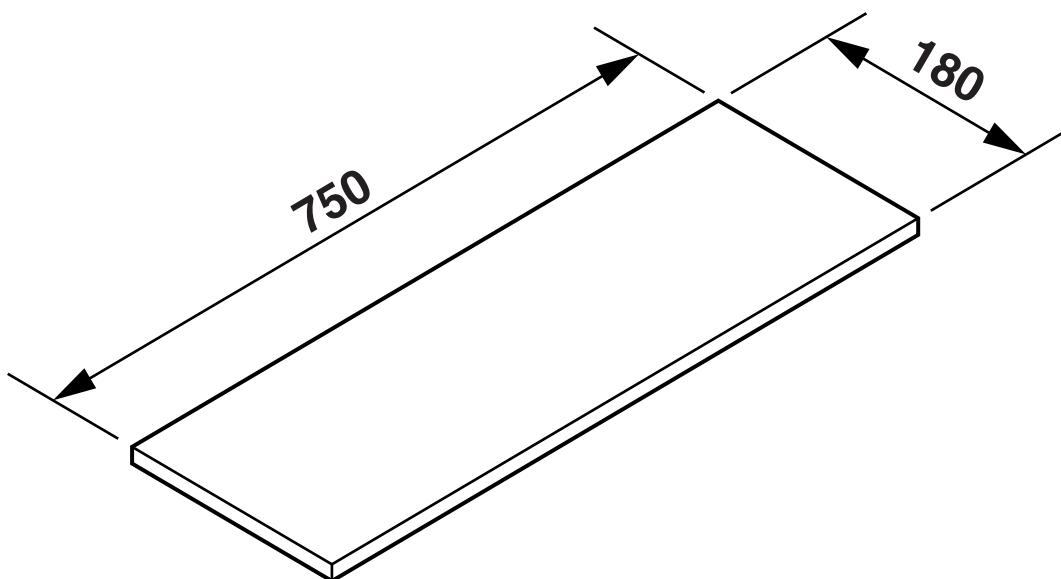

Fig. 6
**(b) Fig. 6 shows a shelf made from 15 mm thick manufactured board.